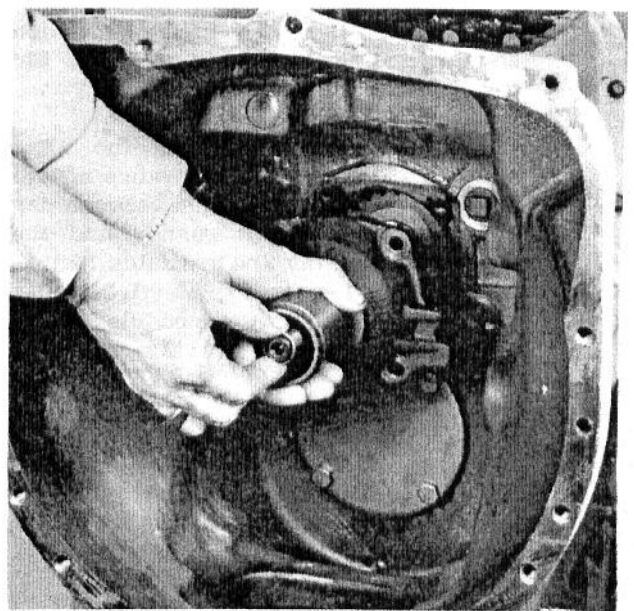

Fig. 22 - Installing Retainer Assembly on Input Shaft
- e. Slide retainer assembly and new gasket over input shaft, as shown in Fig. 22, and secure with retaining capscrews. Alternately tighten retaining capscrews. After assembly, the input shaft should be free to turn by hand with transmission in neutral.
NOTE: To correct the end play, remove only the input shaft retainer from the shaft and select a shim of the correct thickness. Be sure to use a seal protector to prevent damage to the oil seal. See Fig. 22.